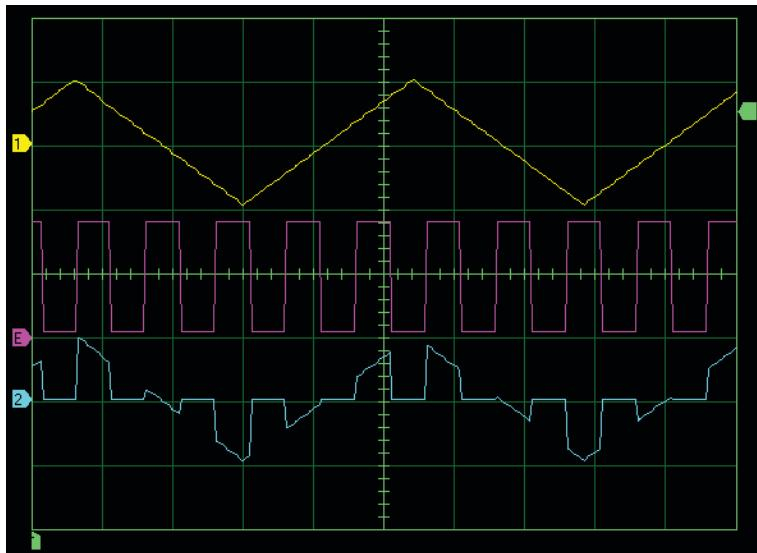

Figure 2-8. Message signal, 5 kHz sampling signal and PAM signal.
9. Decrease the sampling rate from 10 kHz to 5 kHz. Figure 2-8 shows an example of settings and what you should observe.